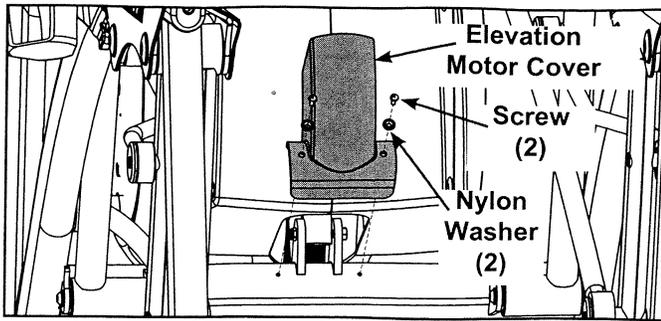

Figure 2
- A. Using a Phillips screwdriver, remove the two screws and two nylon washers securing the elevation motor cover. See Figure 2.
- A. Using a Phillips screwdriver, attach the elevation motor cover to the main frame using the two screws and two nylon washers removed in step 5A. See Figure 2.